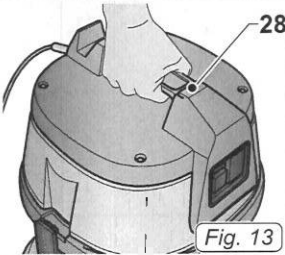
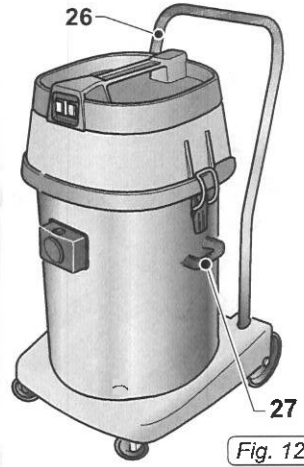

Fig. 13
Fig. 12
- The device is equipped with wheels and thus can be moved with the proper handles, or it can be pushed with the help of the handle (26 Fig. 12)
- To lift it up insert your fingers under the dedicated handle (28 Fig. 13) on the top of the cover of the single version motor or lift with the help of two people using the handles (27 Fig. 12).